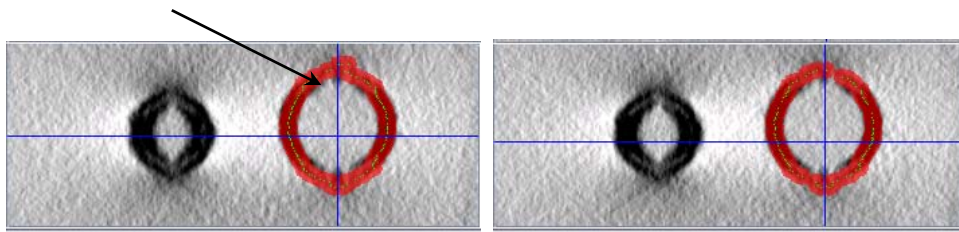

Figure 31: Propagated segmentation with artifact-induced error (left) and after adjustment (right).
7. From the 2 transverse views we see that the propagation worked well for most of the vesicle, but needs some adjustment at the top and bottom slices. (Figure 31). Adjust the propagated segmentation to correct this problem. Use the navigation controls in the **Visualization** window to find the slice where the vesicle ends, which should be around slice 87. Now, press the **Set Stop** button on the **Segmentation control** window.